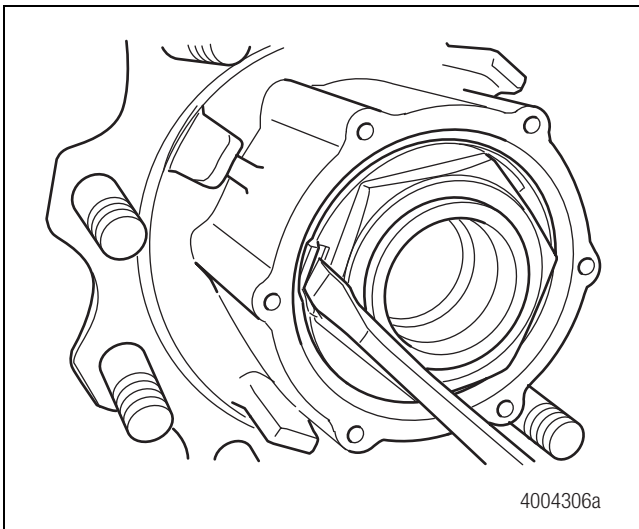

Figure 4.25
6. Use a small chisel or screwdriver to lever back the retaining washer flange from where it was staked to the spindle nut slots. The retaining washer flange must be completely clear of the spindle nut flange. Figure 4.25.